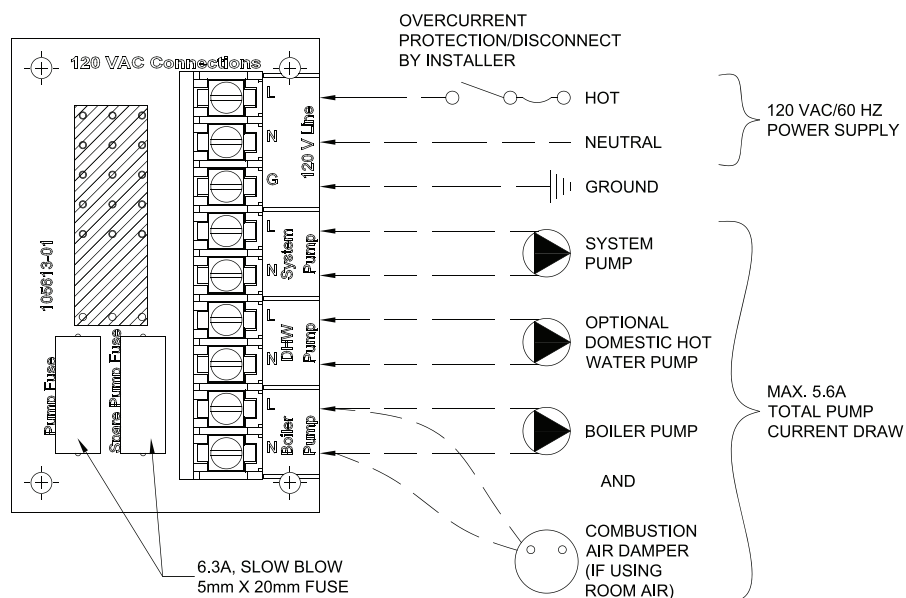

Figure 38: 120 VAC Field Wiring
- 2. 120VAC connections** (line voltage) are located on left PCB and are shown in Figure 38. Do not exceed 5.6A total pump current draw (system + DHW + boiler pumps). One 6.3A slow-blow pump fuse and spare are provided.
4. **5VDC low voltage connections** are located on right side of right PCB and are shown in Figure 38.